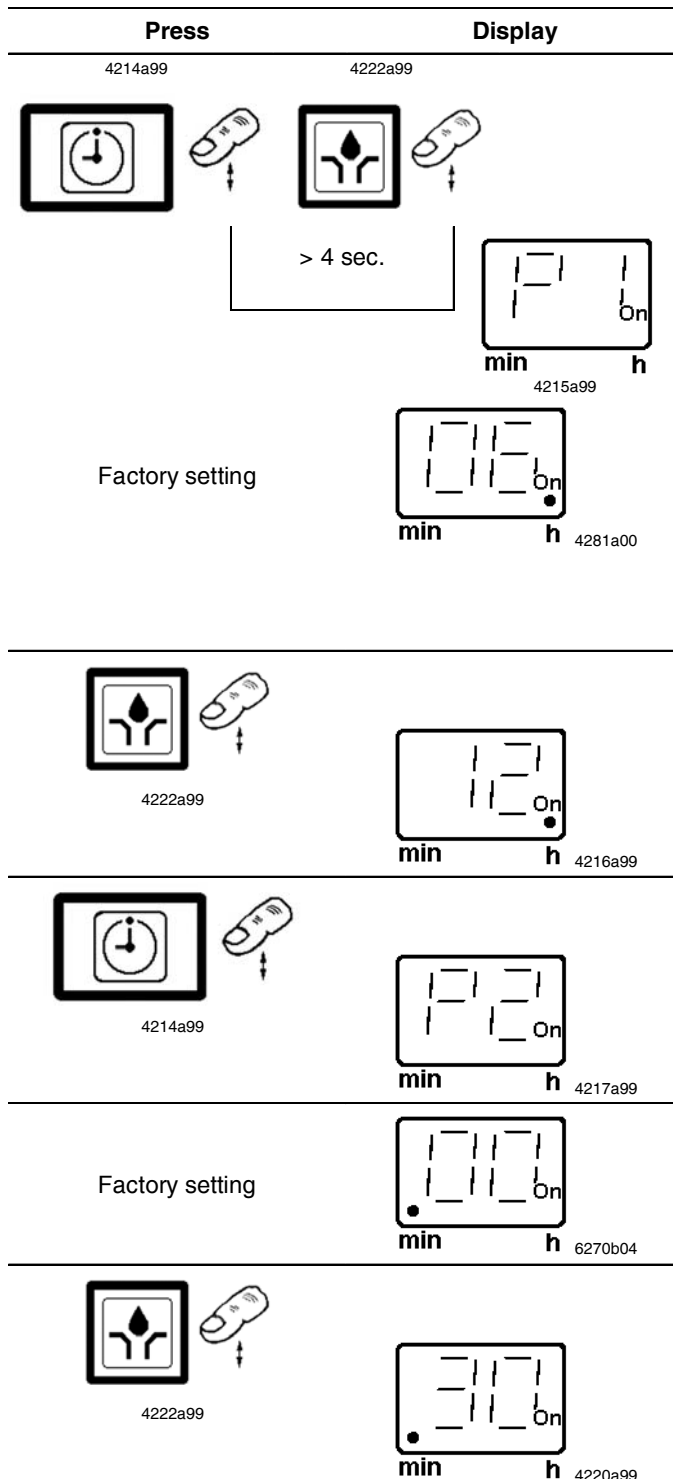

Fig. 32 Programming Mode, time-controlled
- **Programming mode (fig. 32 ff)**